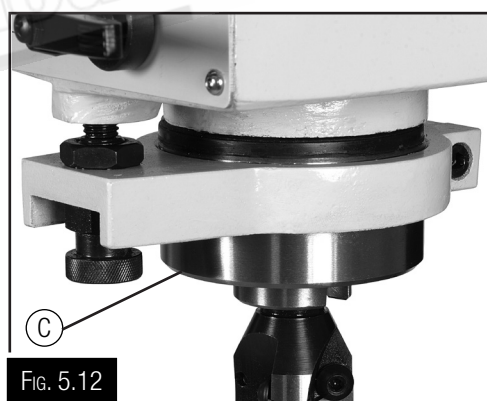

Fig. 5.12
3. Adjust the depth stop by turning the knurled knob (C in Fig. 5.12) accordingly.